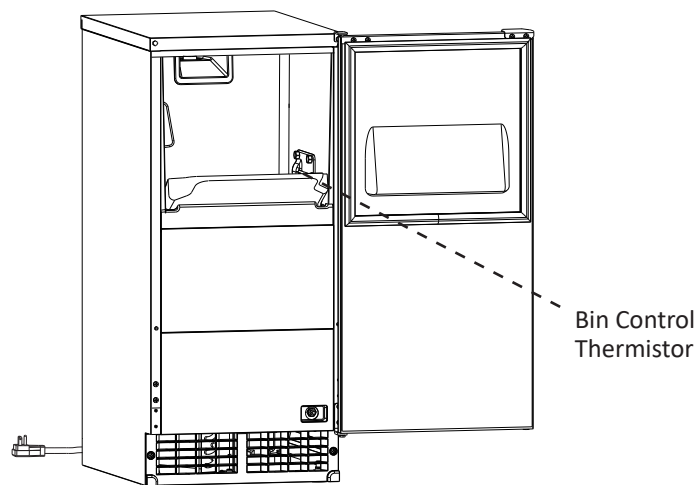

Fig. 34
- 6) At the end of the 30 min. run time, confirm bin control operation, by holding ice in contact with the bin control thermistor. See Fig. 34. The appliance shuts down within 30 sec. Remove the ice. After 30 sec. the appliance restarts the automatic icemaking process.